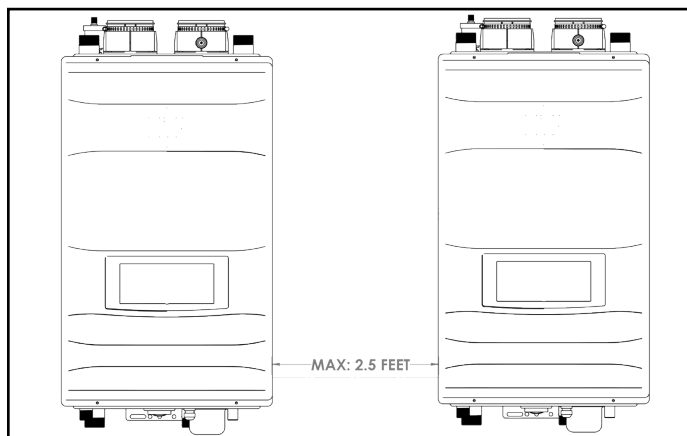

Figure 32 - Maximum Distance Between Wired Cascaded Units
1. Connect the cascade communication cables to every unit. See Figure 32. Add resistor to the end of the last follower.